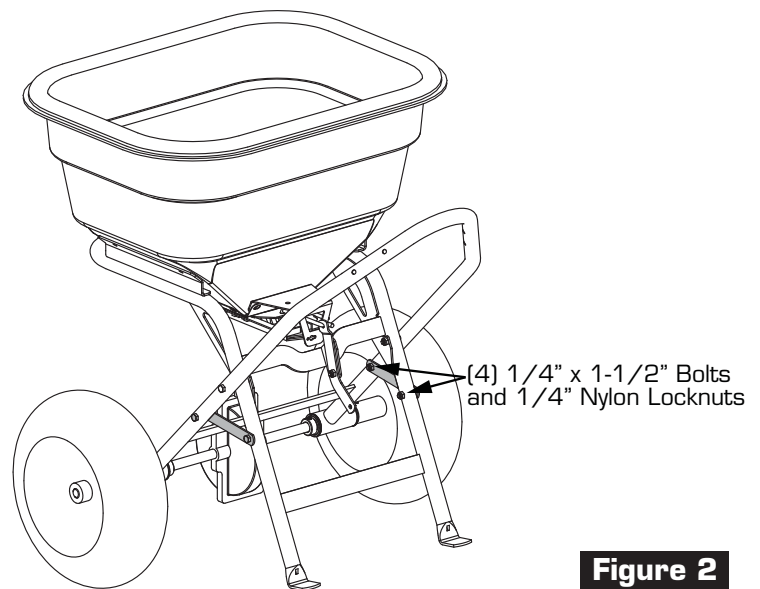

Figure 2
3. Install Cross Braces to frame as shown, Figure 2. Install using (4) $1/4$ " x $1-1/2$ " Bolts and Locknuts.